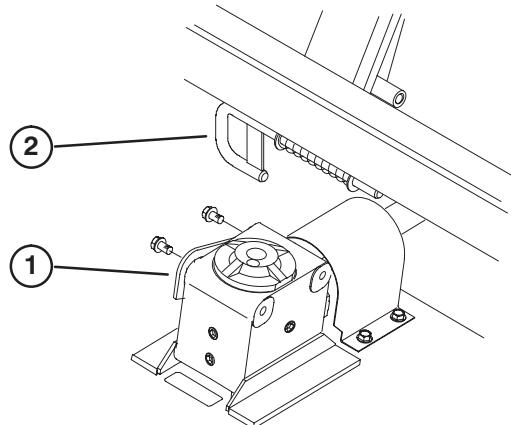

Figure 5
2. Loosen (2) flange head capscrews securing latch plate to side of gearbox (Fig. 5).